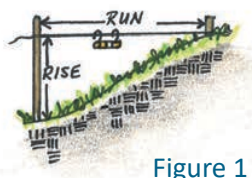

Figure 1
STEP 1 – Measure the slope. Measure the overall rise and run of the area in inches (Figure 1).